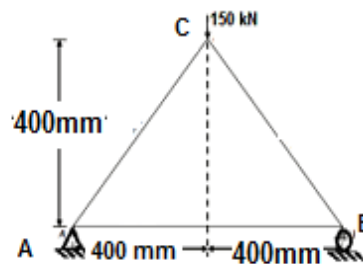

Figure-4
- (a) For the plane truss shown in **figure-4**, determine the joint displacements and support reactions using stiffness member approach. Take modulus of elasticity $E = 200 \text{GPa}$ and area of member AB = 1500mm^2 and area of BC = CA = 1500mm^2 . **07**